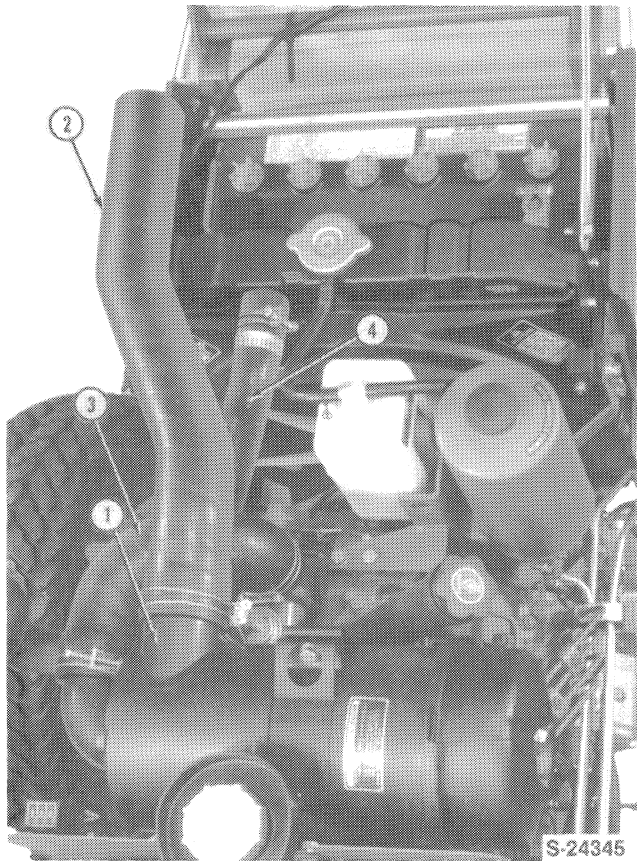

Figure 14
3. Remove the air cleaner assembly along with the air cleaner hoses, Figure 14.
4. Remove the upper radiator hose from the cylinder head, Figure 14.